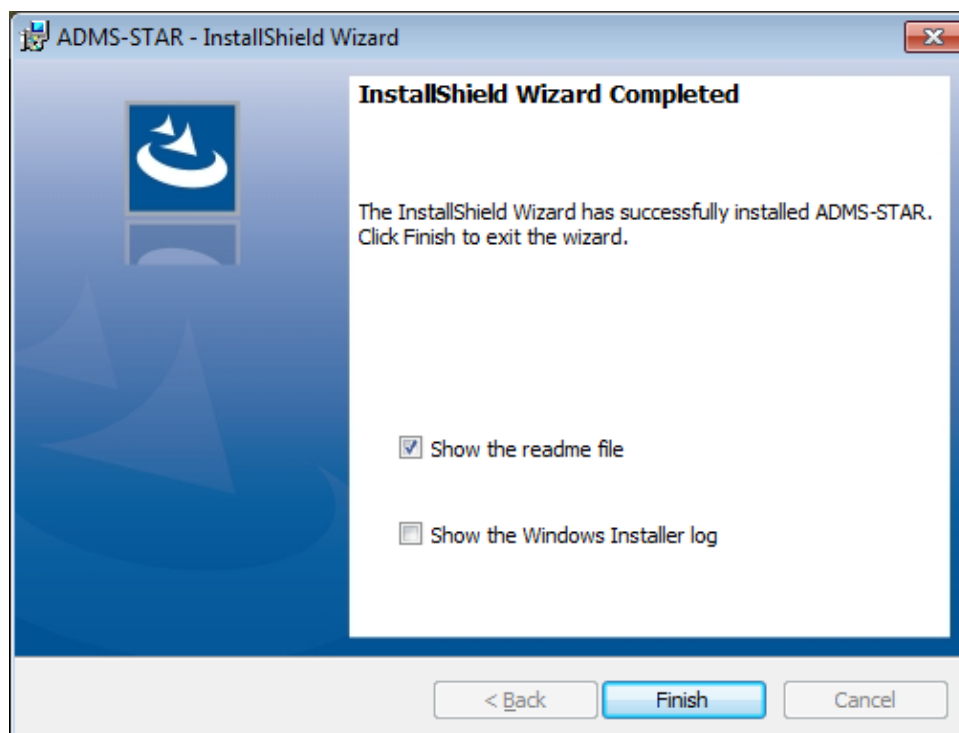

Figure 2.5 - The final screen of the installation.
- Step 7** Once the ADMS-STAR files have been successfully installed, the final screen will appear, as shown below in **Figure 2.5**.